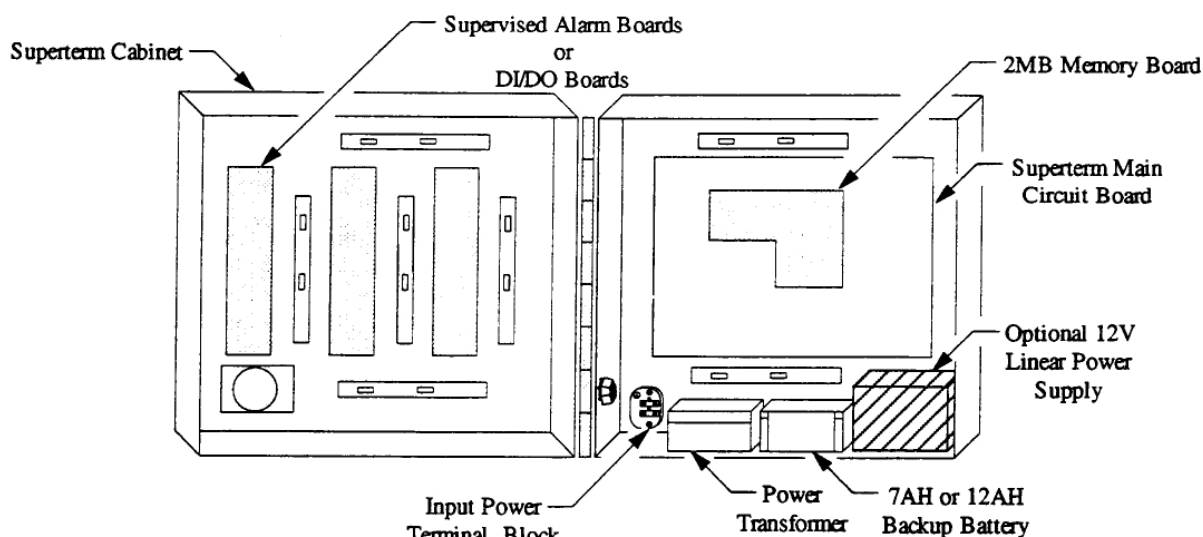

Figure 2 - Superterm Components
- **2 MB Expansion:** An optional 2MB of RAM may be added to the Superterm, providing support for a maximum 200,000 card holders (see Figure 2).
The DI/DO Board supports up to eight, non-supervised inputs and provides 16 relay outputs to devices controlled by two state signals (see Figure 2).